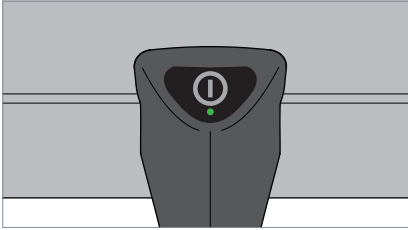

Fig. 6: Key.
- ▶ Press the key, see Fig. 6
- ▶ Press the key and keep it depressed, see Fig. 6.